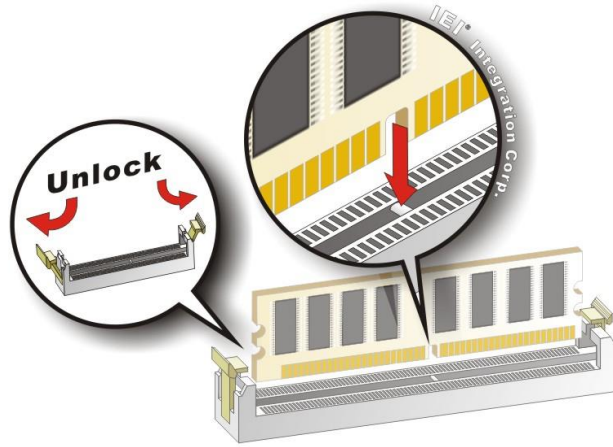

Figure 3-7: DIMM Installation
To install a DIMM, please follow the steps below and refer to **Figure 3-7**.
- Step 2:** **Open the DIMM socket handles.** Open the two handles outwards as far as they can. See **Figure 3-7**.
- Step 3:** **Align the DIMM with the socket.** Align the DIMM so the notch on the memory lines up with the notch on the memory socket. See **Figure 3-7**.
- Step 4:** **Insert the DIMM.** Once aligned, press down until the DIMM is properly seated. Clip the two handles into place. See **Figure 3-7**.